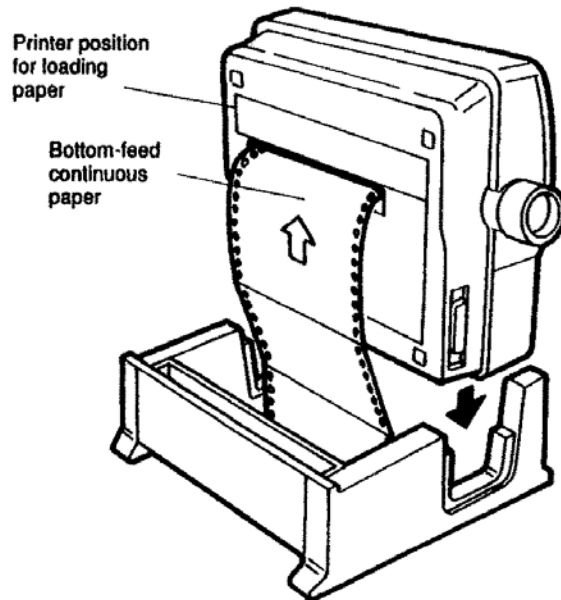

Figure 3-13. Feeding paper into the bottom of the printer
5. Insert the forms or labels through the slot in the bottom of the printer. See Figure 3-13. Pull the forms or labels through so that 4 or 5 inches extend out of the printer. Make sure the paper covers the paper out sensor, which is about 2 inches from the left side of the printer.